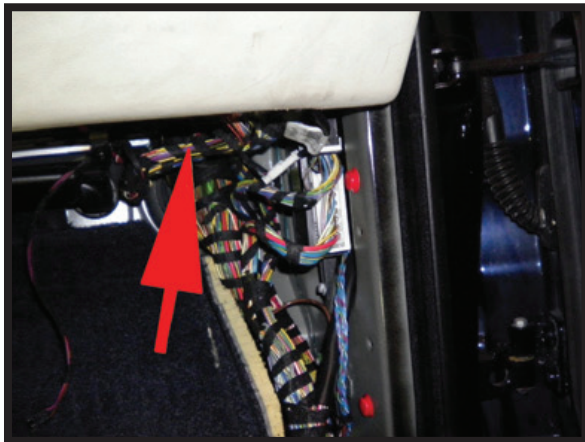

FIGURE 64
1. DISCONNECT PLUGS C2030, C2320, C2321, C0867 FROM BEHIND THE RIGHT SIDE OF THE DASH. (FIGURES 64, 65)